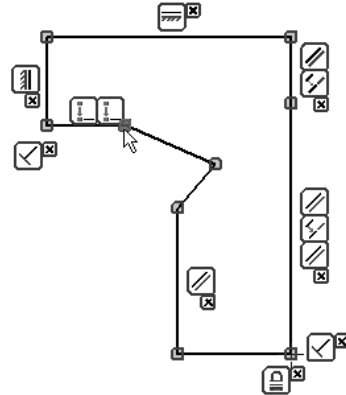

Figure 3-6 The constraint boxes showing the constraints applied to the entities
You can view all constraints that are applied to the entities of a sketch by choosing the **Show Constraints** tool from the **Constrain** panel. When you invoke this tool and move the cursor close to any sketched entity, it will be highlighted and boxes will be displayed after a pause. These boxes show the symbols of all constraints that are applied to the entity. The symbols of the constraints will be highlighted in yellow box. Select the entity to retain the constraint box; the constraint box will be displayed with the constraints in a white background. Figure 3-6 shows the constraint boxes along with the constraints applied to the lines. You can move this box by selecting it and dragging. To close a box, choose the cross (X) on the extreme right of the box. In the case of **Coincident Constraint**, the constraint applied on a point is highlighted in yellow, instead of a box. To view symbols, move the cursor over the highlighted yellow point; the yellow point will be highlighted in red border and the symbols will be displayed in boxes, refer to Figure 3-6.